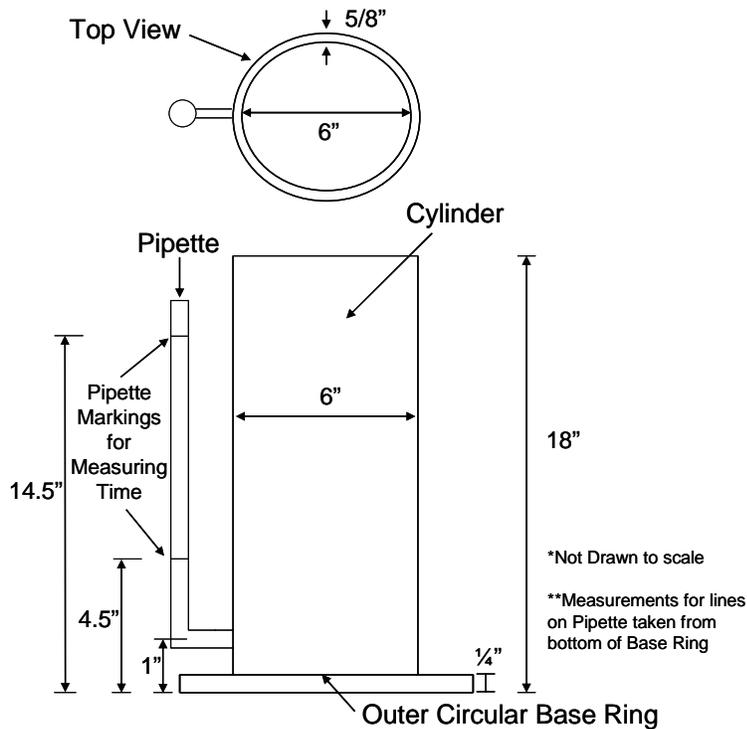

Figure 1—Field Permeameter Used to Measure Water Flow Rate
- 2.1 *Cylindrical field permeameter*, used to channel water onto the pavement surface, equipped with a pipette graduated in divisions of 1.0 in. (25mm). (See Figure 1.)